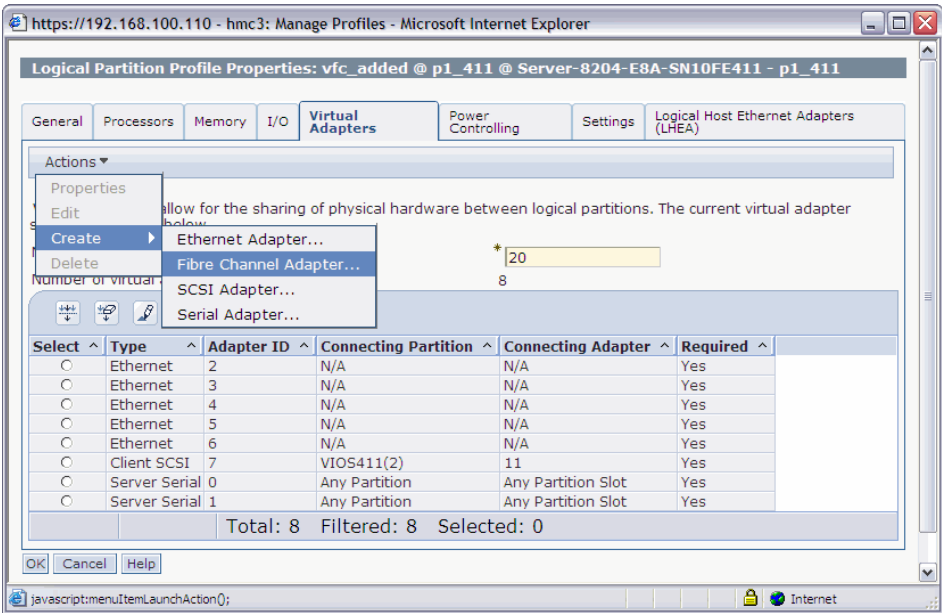

Figure 7-7 Create Fibre Channel client adapter
- b. To create the virtual Fibre Channel client adapter select the profile, then select **Actions** ∅ **Edit**. Expand the **Virtual Adapters** tab and select **Actions** ∅ **Create** ∅ **Fibre Channel Adapter**, as in Figure 7-7.